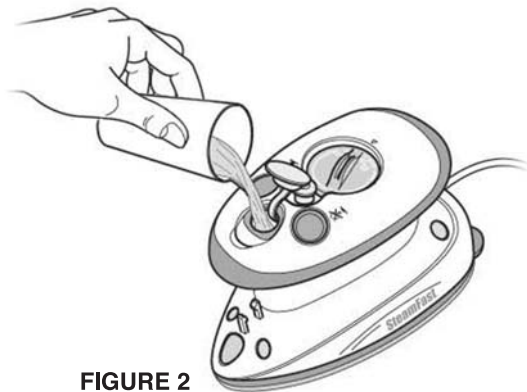

FIGURE 2
3. Open Water Tank Cap. Pour water from Measuring Cup into Water Tank (FIGURE 2). Close Water Tank Cap.